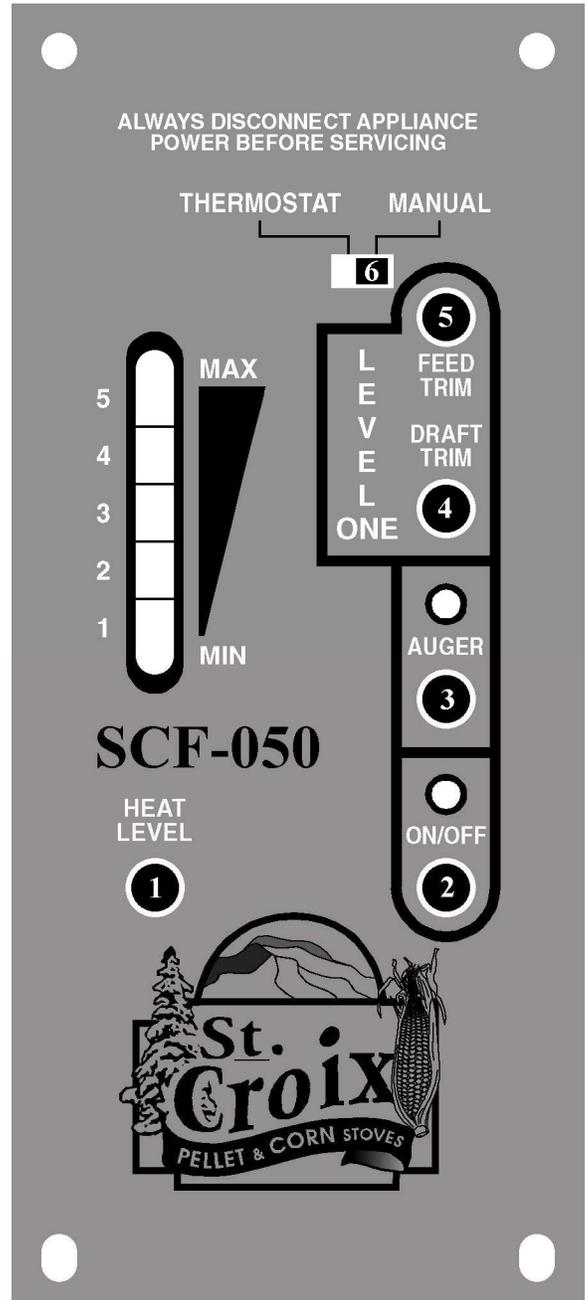

Figure 13
A closer look at the Control Board to the right in figure 13 will explain how the board works. There are five buttons labeled 1 through 5, a slide switch labeled 6 and a LED Light bar with 5 Heat Settings. **The LED Light bar is also used during the Diagnostic process, see page 29 for more details.**
The buttons on the board function as follows: (Refer to Figure13. The touch pad buttons are labeled with the white numbers 1 through 5)
Shutting The Furnace Off *(Refer to Figure 13)*
The #2 LED and the #3 LED lights on the LED Light bar as show in figure13 will flash to give a diagnostic code to help in diagnosing problems that may occur.
1. The **Proof of Fire** switch. This switch will sense the temperature of the Exhaust rising during start up. If the Exhaust temperature does not reach 110 degrees F, or if during use the temperature drops below 110 degrees F, the Furnace will go into “**Internal Alarm**” and the Auger will quit feeding fuel. Once the Furnace completes the safety shutdown, the #3 LED will start blinking. *(See Figure 13 on Page 26)*
2. The **High Limit** switch. This sensor will sense if the unit reaches temperatures that are too high for normal operation. If this happens the Auger will quit feeding and the #2 and #3 LED lights will flash simultaneously. *(See Figure 13 on Page 26)*
3. The **Vacuum** switch. For the Furnace to operate correctly the firebox needs to be sealed. During the first 30 seconds after the Furnace has been turned on the control board will check to see if the switch senses negative pressure (Vacuum) in the firebox of the Furnace. If there is no negative pressure, the Furnace will go into “Safety shutdown” and the #2 LED will start blinking. *(See Figure 13 on Page 26)*